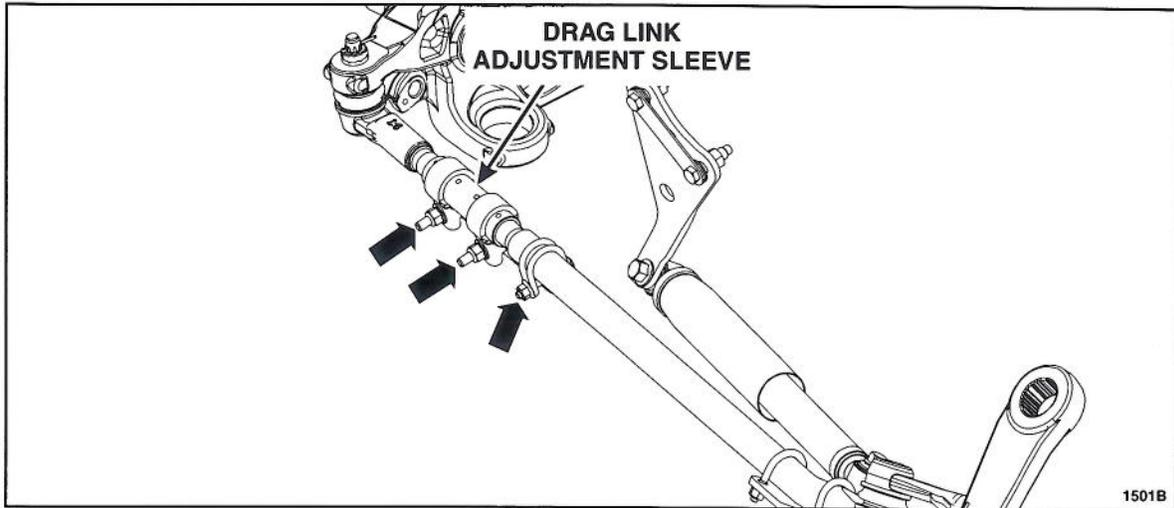

FIGURE 3
5. Loosen the drag link adjustment sleeve fasteners and adjust the sleeve as needed to obtain proper steering wheel clear vision. See Figure 3.